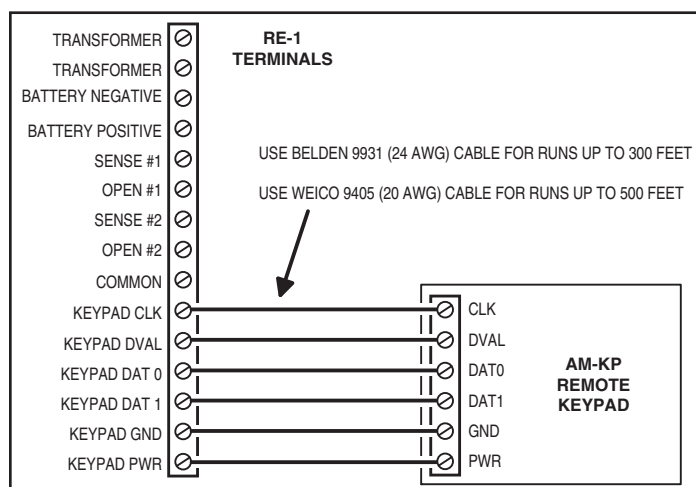

Figure 17. Remote Keypad Wiring
- Connect the 6-conductor cable as shown in Figure 17.